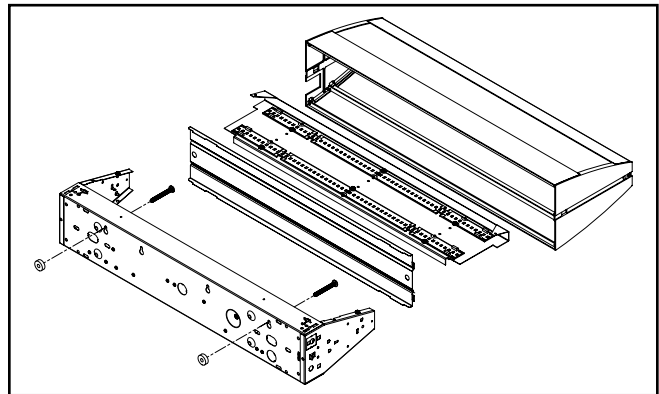

Figure 4. Overall Assembly
1. Overall assembly (Figure 4).